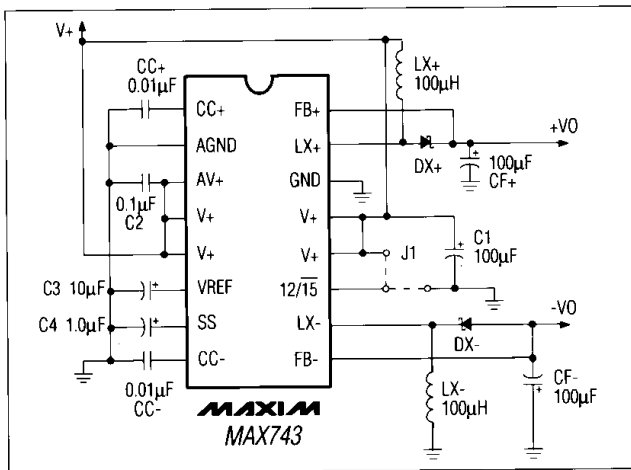
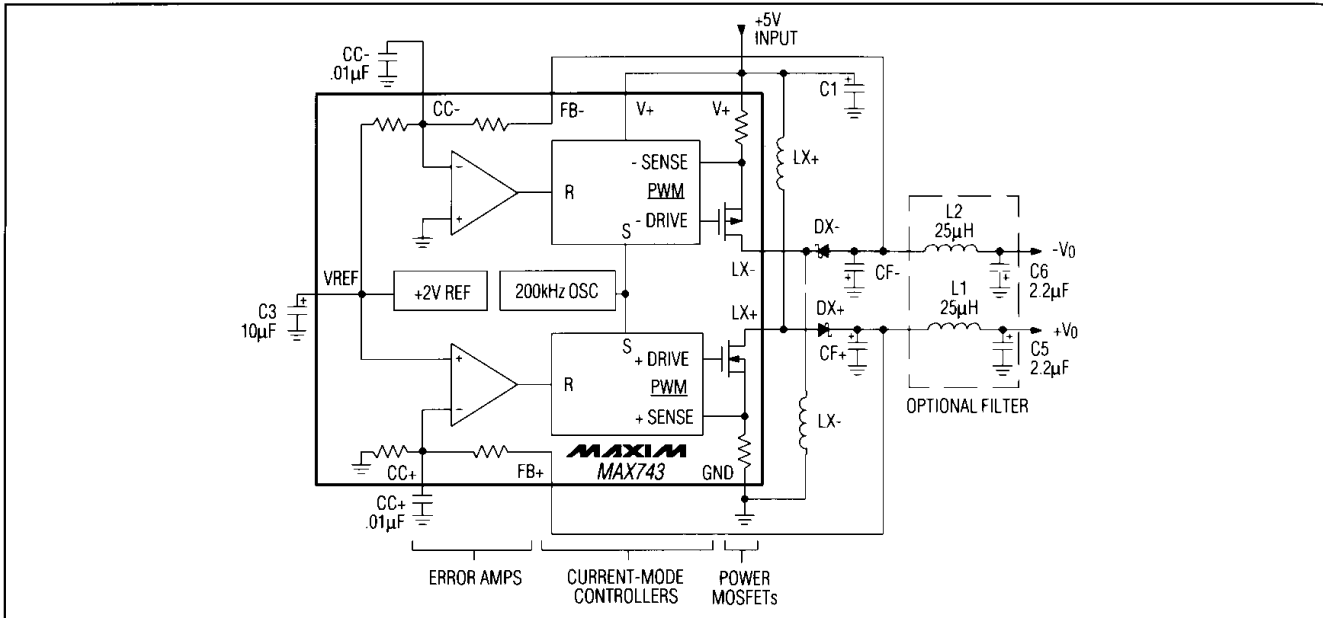
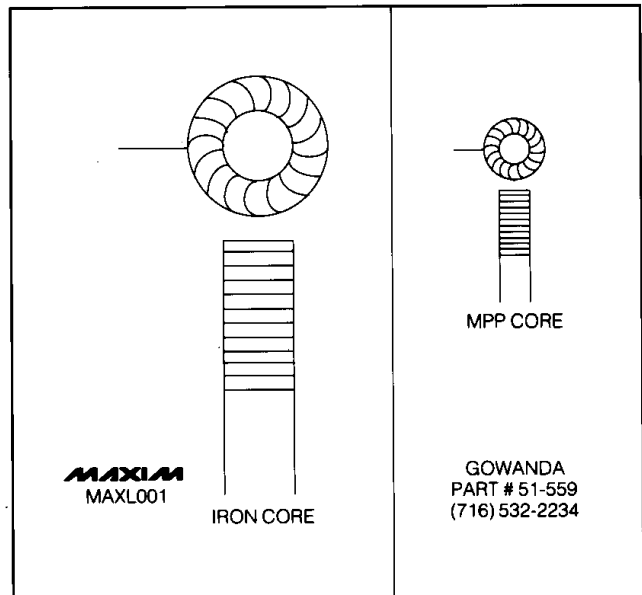
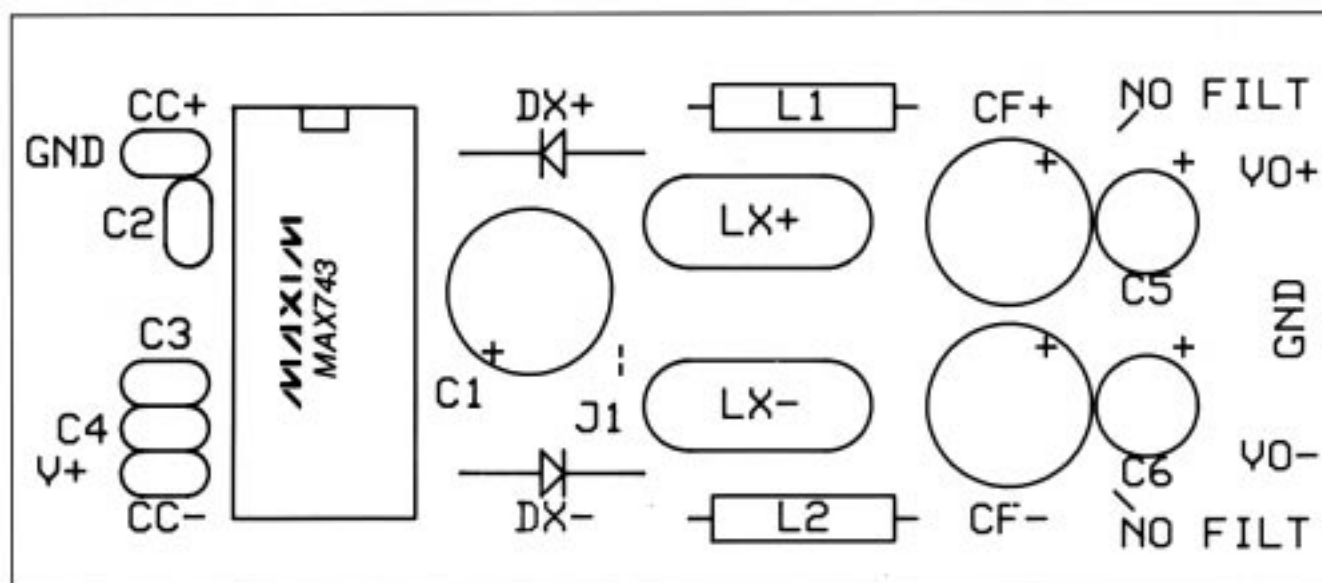

Figure 1. Basic Application Circuit
Figure 4. Functional Diagram with Optional Pi Filter
Figure 5. 100 $\mu$ H Low-EMI Inductors for 3W Supplies (Actual Sizes) (See Table 1)
Figure 7. Component Placement Diagram for PC Layout of Figure 6
(Circuit of Figure 1, +4.5V < V+ < +5.5V, Note1.)
(Circuit of Figure 1, V+ = +5.0V, 12/15 pin = 0V, ILOAD = 0, TA = TMIN to TMAX, unless otherwise noted.)
The circuit in Figure 1 has been tested at all line, load, output current, and temperature limits. Refer to the Electrical Characteristics table for guaranteed in-circuit specifications. Successful use of this circuit requires no component calculations.
The MAX743EVKIT Evaluation Kit demonstrates the output capabilities and noise performance of the MAX743 standard application circuit (Figure 1). The kit includes main switching components identical to those found in the high-volume production kit described on page 11 (MAX743CPEKIT). With a few quick modifications, the circuit can also serve as a low-noise test bed to evaluate other components, such as the miniature MPP toroid inductor of Figure 5. The kit includes optional Pi filters shown in the Functional Diagram (Figure 4), which reduce output noise to less than 2mVp-p.
**1. Build Circuit.** Assemble the PC board according to the component placement diagram of Figure 7 and the schematic of Figure 4. 3 resistors will be left over (and used for testing). The extra holes near LX and CF are options for nonstandard component sizes. Do not install jumper, J1, or C4.